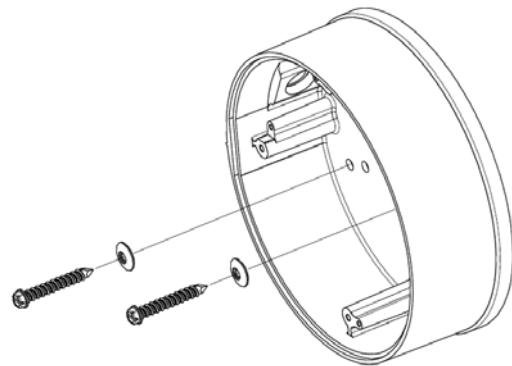

Figure 3
7. Attach housing to the wall using concrete anchors*, putting the sealing washers between the head of the anchor and the housing body, with the rubber side against the housing. (Figure 3)